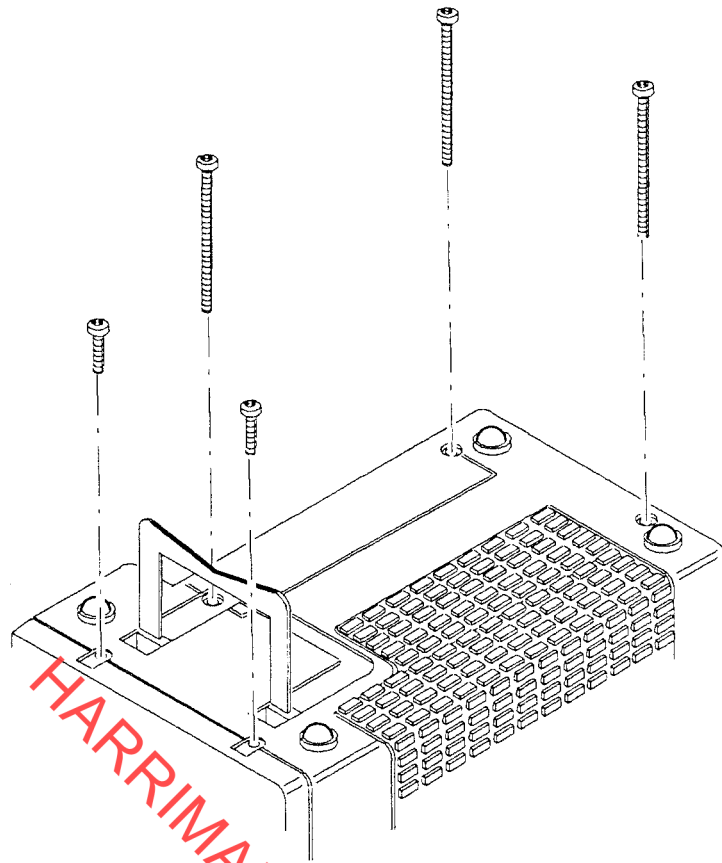

Figure 6-3: Removing Screws from the Bottom Case
- a. Place the instrument on its top case as shown in Figure 6-3. Lift the flip stand up.